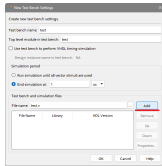

Figure 22: Click "Add"
13. Click "Add" in "Test Benches" window. (Figure 22)